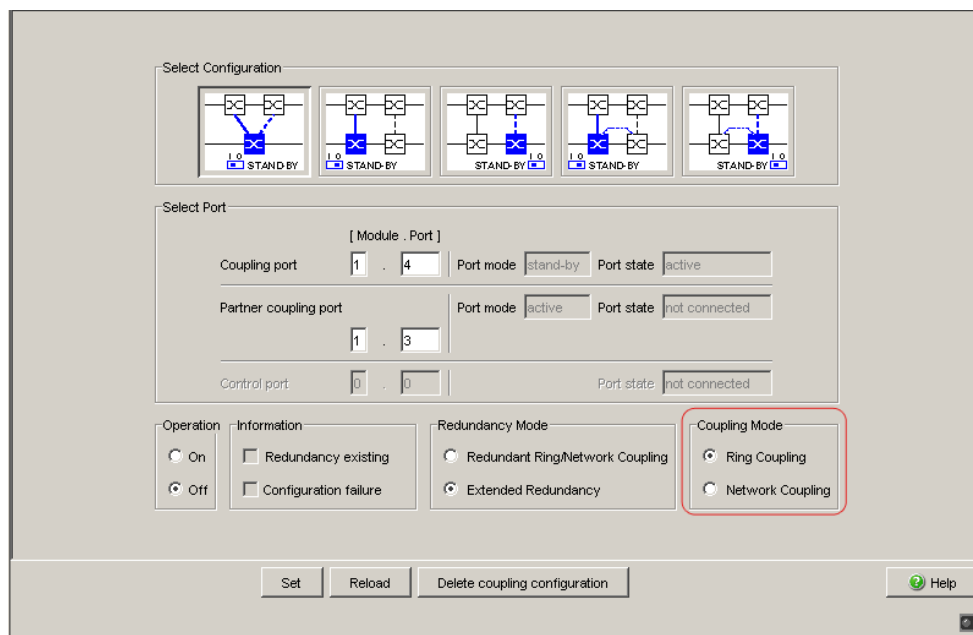

Figure 28: One-Switch coupling: Selecting the coupling mode
- In the “Coupling Mode” frame, select (see fig. 28)